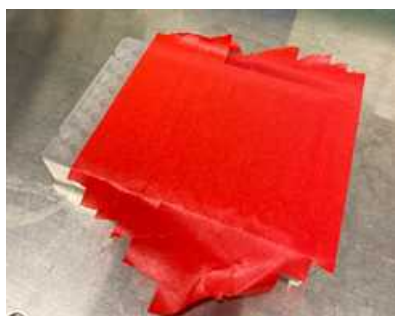

Figure 1. Initial lab tape covering of SSP.
- Tape the clean SSP in the following way: Starting from column 12, place a strip of lab tape over the column, then move one column to the left and place a strip of lab tape over column 11 so that it partially overlaps the column 12 tape strip, and continue this way until only column 1 is left open (Figure 1).
- Starting from column 1 of the SEP, place a strip of lab tape over the column, then move one column to the right and place a strip of lab tape over column 2 so that it partially overlaps the column 1 tape, and continue this way until only column 12 is left open (similar to the process described for the SSP above [Figure 1] but in reverse) (Figure 3).